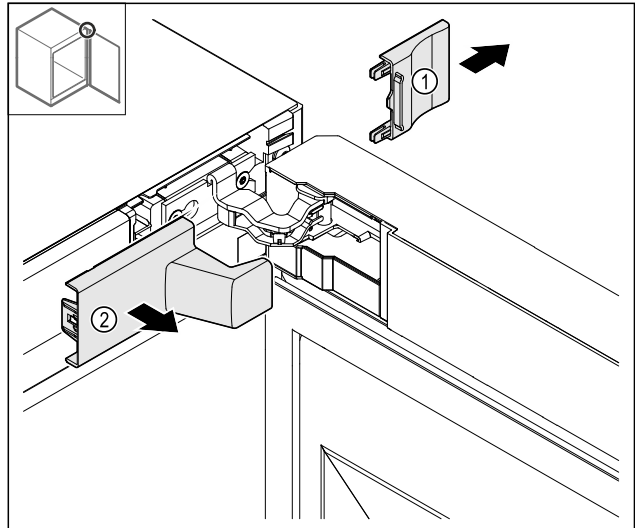

Fig. 7
- ▶ Remove the cover Fig. 7 (1) and then Fig. 7 (2).